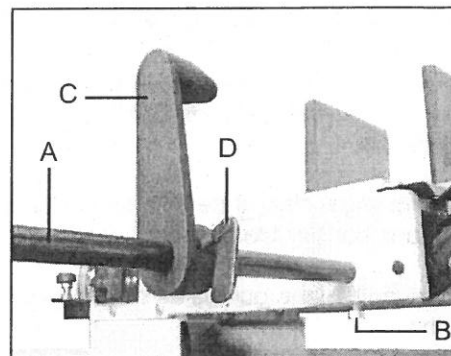

Fig. 2
4. Slide material stop bar (A, Fig. 2) into base and secure by tightening hole (B). Slide material stop (C) onto bar and tighten bolt (D).